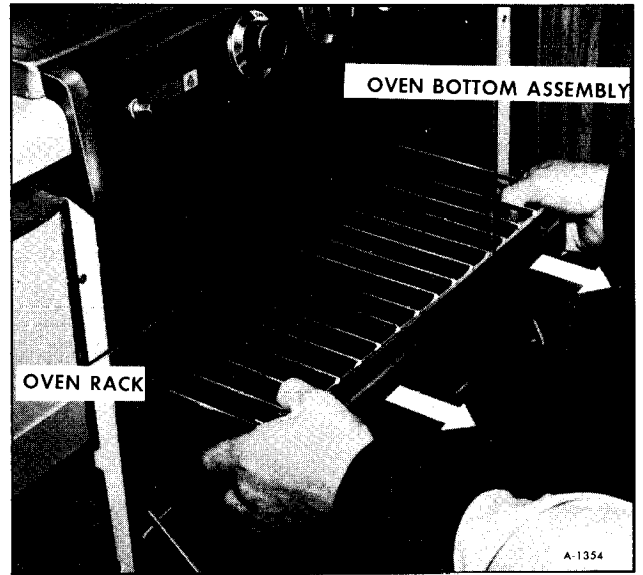

Figure 14—Removing Oven Bottom Assembly
3. Remove oven bottom assembly by pulling outward (See figure 14).